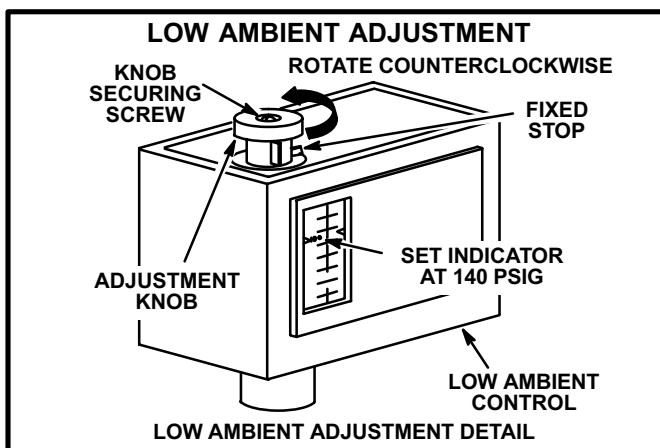

FIGURE 72
- 1- Loosen knob securing screw to allow knob stop to pass over fixed stop on control (see figure 72).